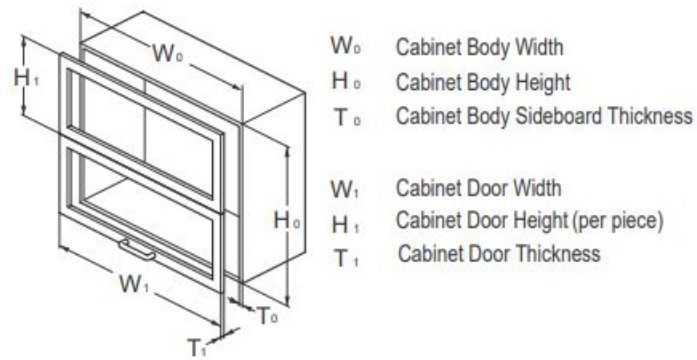

Fig.2 Cabinet illustration
3. Measure the cabinet door and cabinet dimensions to select a proper type of model HBFN mechanism. Refer to Figure 2 for cabinet illustration and formula for cabinet height calculation.
- Measurements of cabinet door should be considered to select a proper type of model HBFN mechanism. ( Fig.2 )
- Cabinet Door Thickness (T 1) : 17~20mm ( Refer to Fig. 2 )
$W_1$  Cabinet Door Width (Fig. 2)